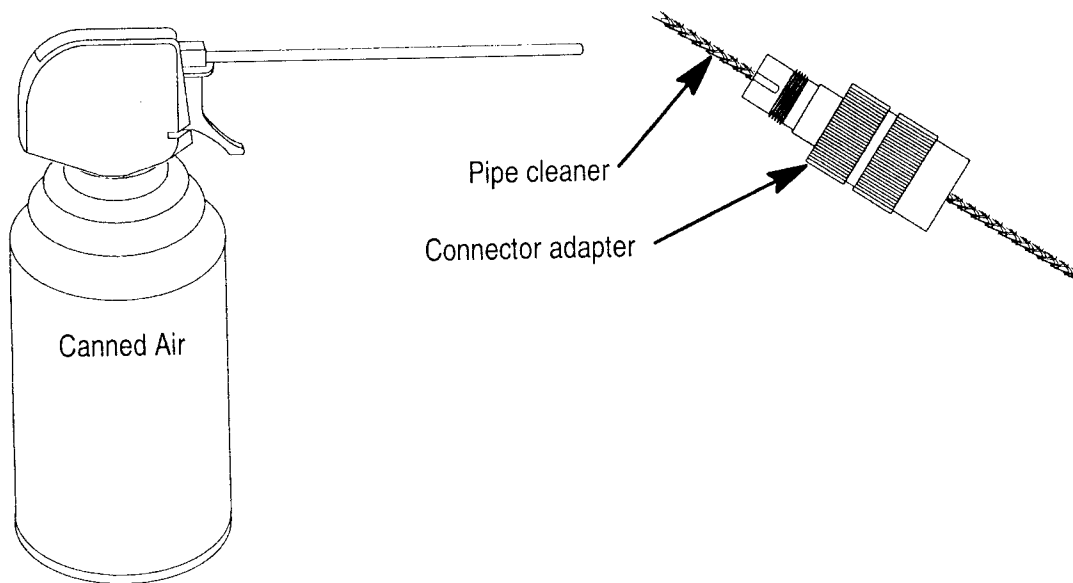

Figure 4-3: Cleaning the Connector Adapter
- Step 1.** Blow through each end of the connector adapter barrel with dust-free canned air (see Figure 4-3).